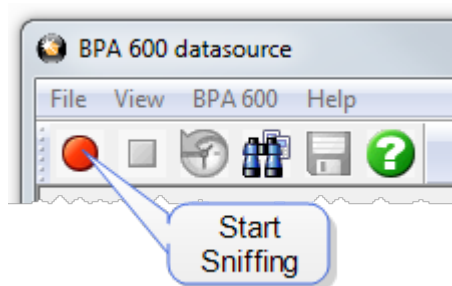

Figure 4.4 - Start Sniffing from Datasource Toolbar.
1. Select **Start Sniffing** on the **Datasource** dialog from the toolbar (Figure 4.4) .